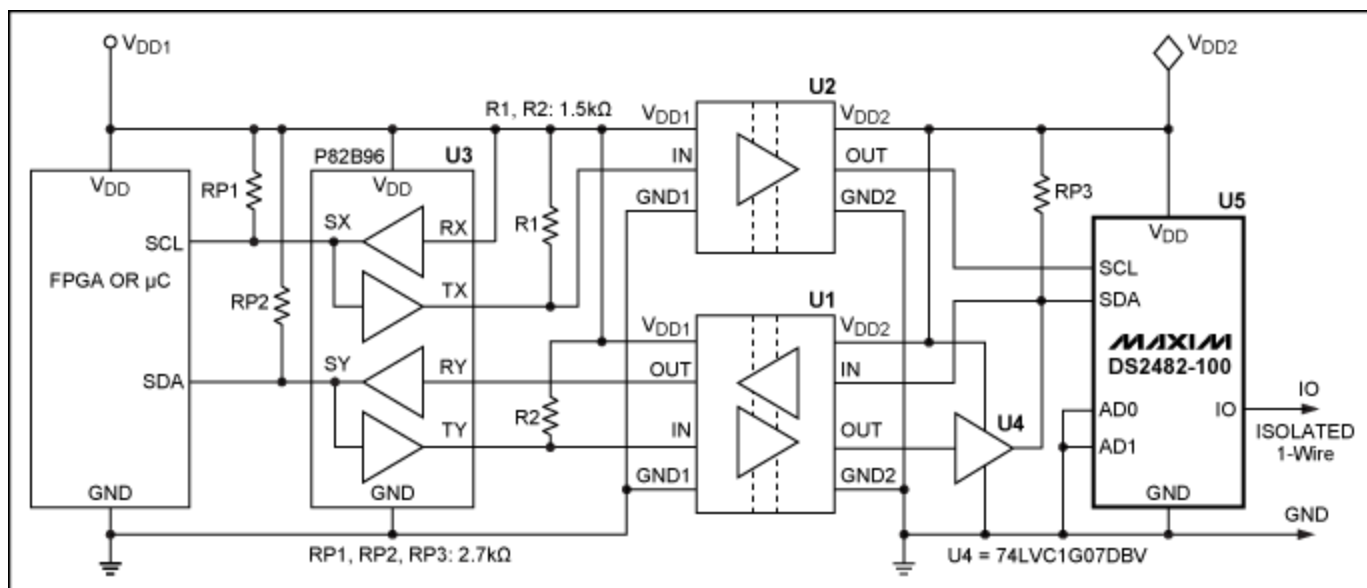

Figure 4. An isolated 1-Wire master circuit with an I2C protocol converter.
high for 1-Wire slaves and integrated 1-Wire masters. Before considering this circuit, verify whether the  $V_{OLMAX}$  at SY is compatible to  $V_{ILMAX}$  at PIOA. The PCA9600 is an upgrade of the P82B96; it has half the propagation delay and a slightly reduced  $V_{OLMAX}$  level, but consumes more power. Generally, the circuit in Figure 4 is a better alternative.
The circuit in **Figure 4** uses an integrated I2C to 1-Wire protocol converter. Isolators U1 and U2, bus buffer U3, open drain driver U4, and the resistors R1, R2, and RP3 are added. The lower part of U3 splits the bidirectional SDA path into the forward path (TY of U3 to IN of U1) and the backward path (OUT of U1 to RY of U3). The noninverting driver U4 joins the forward and backward path to the bidirectional isolated SDA. Since the 1-Wire master U5 does not use clock stretching, the SCL path (SX to TX of U3 and to IN of U2) is unidirectional. Therefore, it is permissible to connect the push-pull output of U2 to directly to SCL of the protocol converter. All the time critical operations are controlled by the 1-Wire master, which supports I2C clock rates of up to 400kHz. Consequently, the signal delay added by the bus buffer and isolator is not critical. Since the bus buffer already adds  $2 \times \sim 250\text{ns}$ , the isolator needs to be fairly fast, e.g., 50ns maximum per direction. Due to popular demand, I2C modules are available that combine the bus buffer, isolators, and driver in a single SOIC package.
**Table 2** shows characteristic parameters of the ADuM3100A and the ADuM3201B. The current consumption is much less than with optoisolators and does not depend on the logical state of the input. Some iCoupler devices include a DC-DC converter (*isoPower*® technology) to provide isolated power to the other side. Particularly convenient are the I2C modules ADuM1250 and ADuM1251, which merge U1, U2, U3 and U4 of Figure 4 into a single package.
**Table 4** shows characteristic parameters of the Si8410AB and the Si8422AB. The current consumption is very low, but—as with optoisolators—depends on the state of the input signal. The default output state (when the input side has no power) is either fixed (high or low) or an ordering option. Particularly convenient are the I2C modules Si8400AB and Si8401AB, which merge U1, U2, U3 and U4 of Figure 4 into a single package.